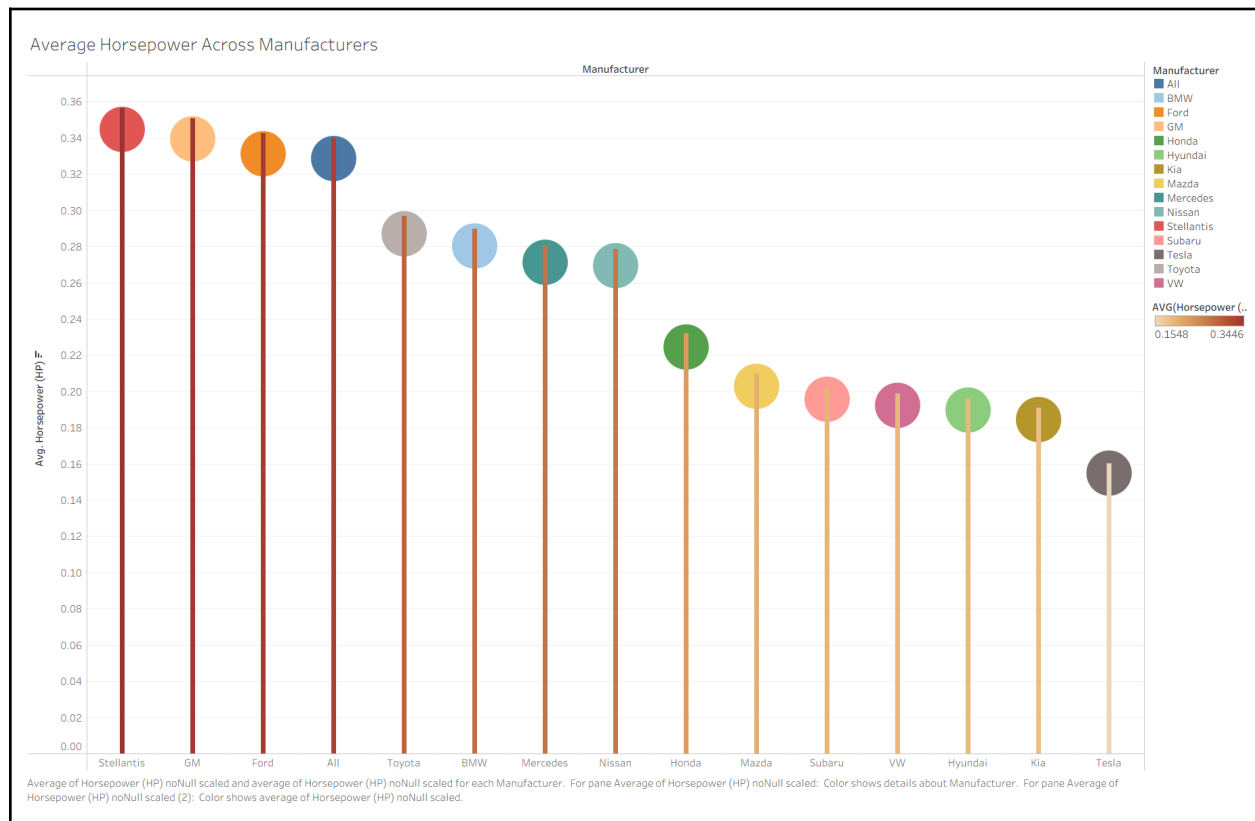

Fig. 3 - Lollipop Chart
As you can see in the figure above, American automakers like Stellantis, GM, and Ford produce vehicles with the highest average horsepower, whereas electric vehicle-focused manufacturers such as Tesla show the lowest average horsepower in the lollipop chart presented in Figure 3.
For us, the most significant potential misinterpretation stems from the Y-axis scale. Why is that, you ask? It is because the field consists of Horsepower (HP) noNull scaled, which means the values are not actual figures of horsepower. It consists of a normalized value, scaled between 0 and 1. A viewer of this lollipop chart might mistakenly think that the average horsepower (like 0.34 for Stellantis, as shown in Figure 3) is the literal depicted value, which is incorrect. Knowing the actual horsepower without a scaling method is impossible, so this lollipop chart is only valid for comparing such manufacturers relative to each other.